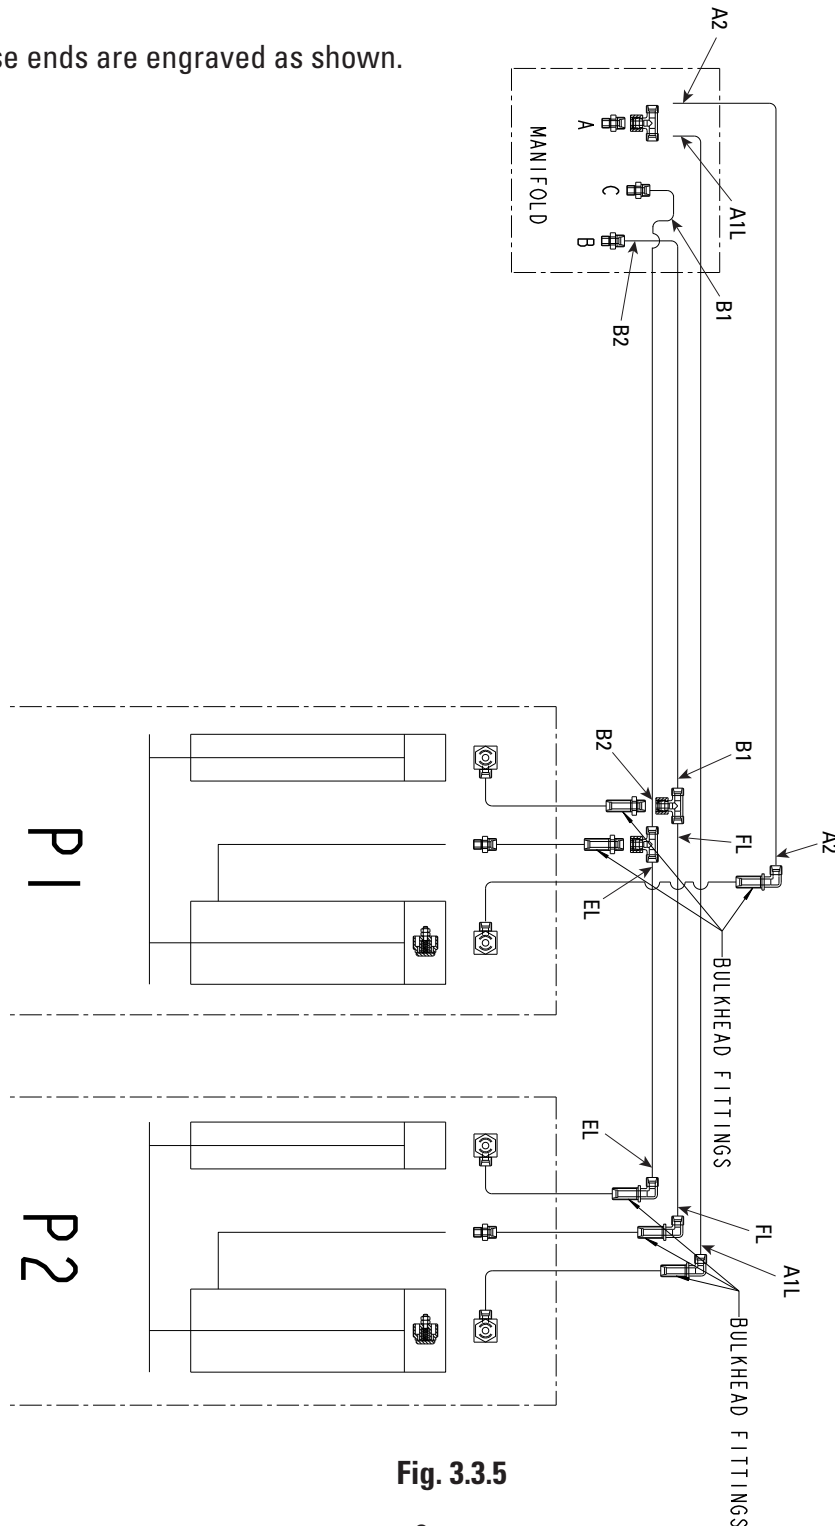

Fig. 3.3.5
- Attach hoses as shown below in Fig. 3.3.5 (a hydraulic circuit diagram is included in the appendix).